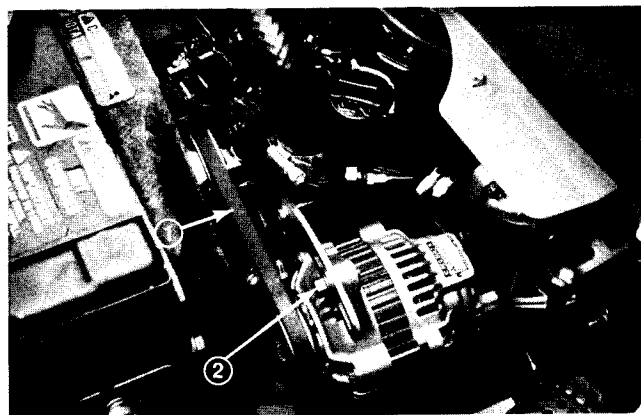

Figure 24
2. Loosen alternator brace bolt and support bolt (Fig. 24). Push the alternator in towards the engine.